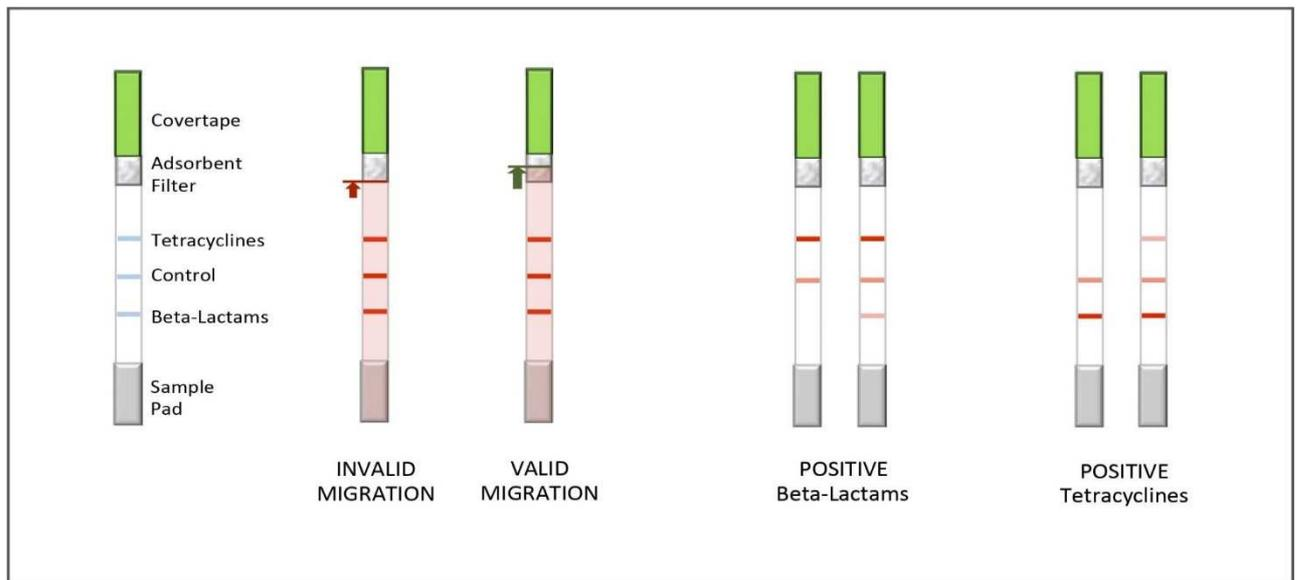

Figure 1: Visual check and interpretation.
1. If the milk has not migrated correctly* (see Figure 1) **and** if the control line is not visible (with or without the presence of a test line), do consider the test as not valid; don't interpret the result and directly run another test.
2. If the milk has not migrated correctly* (see Figure 1) **and** if the control line is not visible (with or without the presence of a test line), do consider the test as not valid; don't interpret the result and directly run another test.